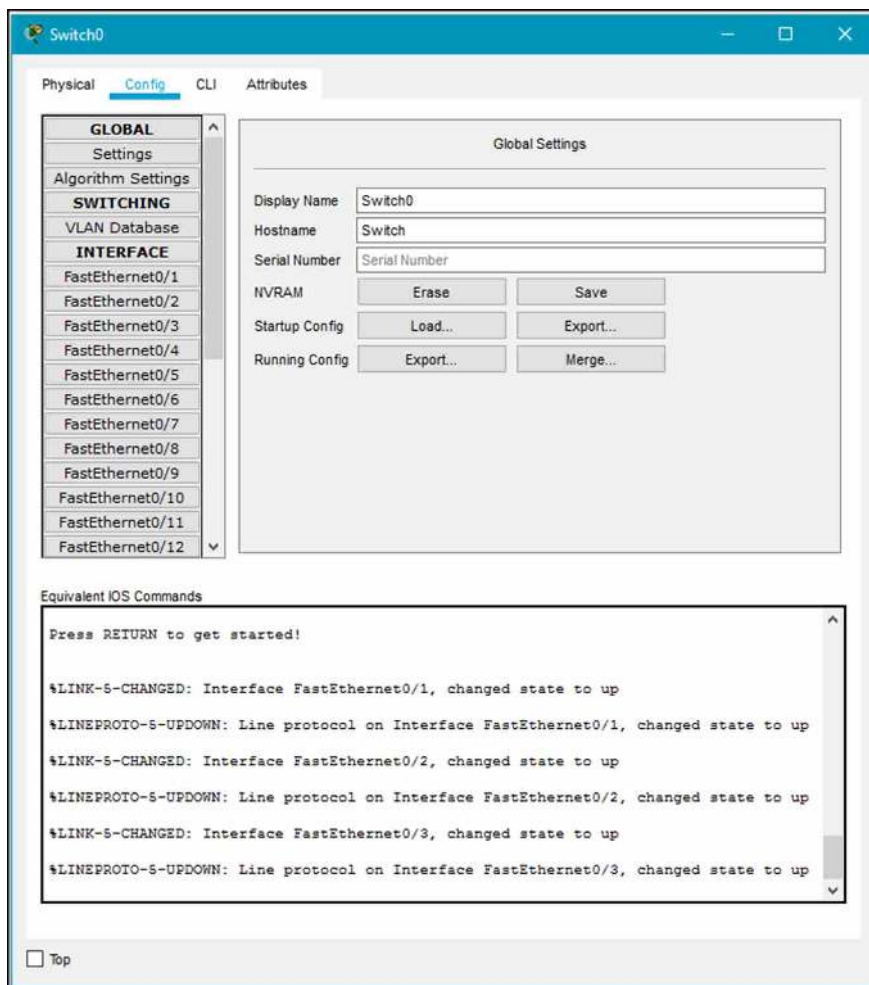

Figure 3.6: Config Tab on Switch0 in Cisco Packet Tracer
- Click on **Switch0** and select the *Config* tab. Under *Global Settings*, rename the switch (e.g., "SwitchLab3"), as illustrated in Figure 3.6.